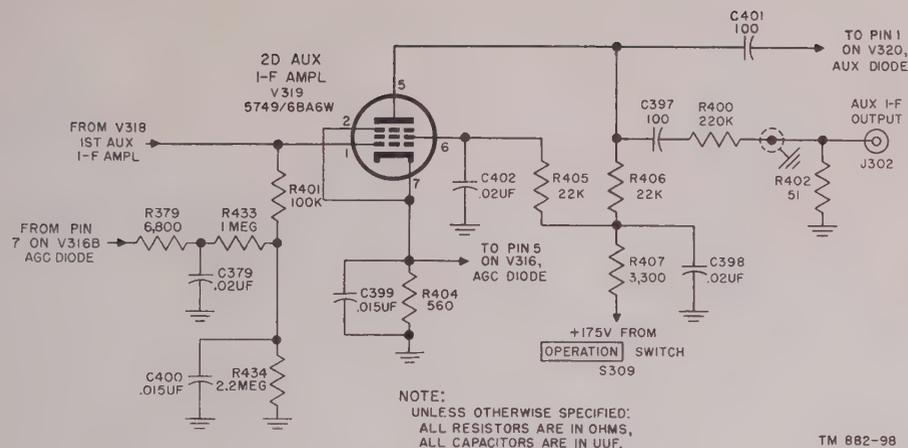

Figure 63. Second auxiliary i-f amplifier.
- (1) From the plate, through C396 and C397, furnishing excitation to the second auxiliary i-f amplifier, V319.
- (2) From the junction of R400 and R402 to the aux i-f output jack, J302, on the rear apron of the main chassis.
b. Second Auxiliary I-f Amplifier (fig. 63). The primary function of the second auxiliary i-f amplifier, V319, is to increase the gain. The 455-kc i-f signal from V318 is fed to the control grid of V319 and the output, amplified at the intermediate frequency, is coupled through C401 to the auxiliary diode, V320. Output is also taken from the cathode for the purpose of stabilizing the agc voltage developed by V316. The gain of the second auxiliary i-f amplifier is regulated by the agc voltage applied to the control grid through the grid resistor, R401. The function of the agc decoupling network is the same as for V318 (par. 75a). R406 is the plate load resistor, R404 is the cathode bias resistor, and